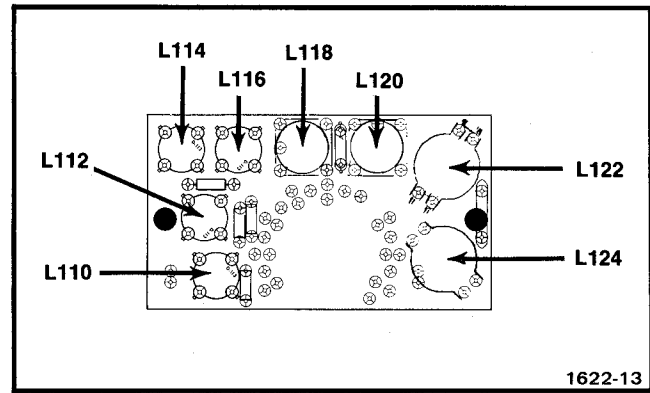

Fig. 3-6. Location of oscillator coils.
g. Repeat part d of this step for the remaining frequency ranges, using Table 3-3 as reference. (Suppression limit of 45 decibel down corresponds to 4.5 divisions on the display.) See Fig. 3-6 for adjustment location of coils.